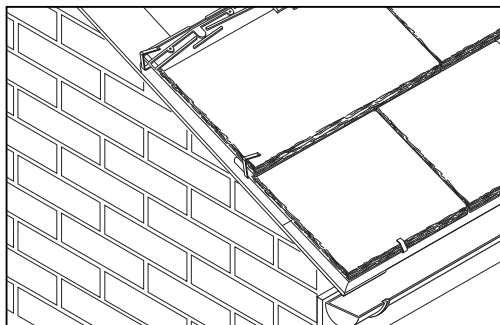

Fig 76 - Left hand bedded verge showing verge clip and additional eaves clip
- 6 At a left hand bedded verge, an eaves clip should be used to restrain the bottom left hand corner of the last eaves slate (as shown in Fig. 76, on page 92).
- 5 At a left hand verge, an eaves clip, with the hook opened out to 12mm, should be used to restrain the bottom left hand corner of the last eaves slate. (Fig.76)